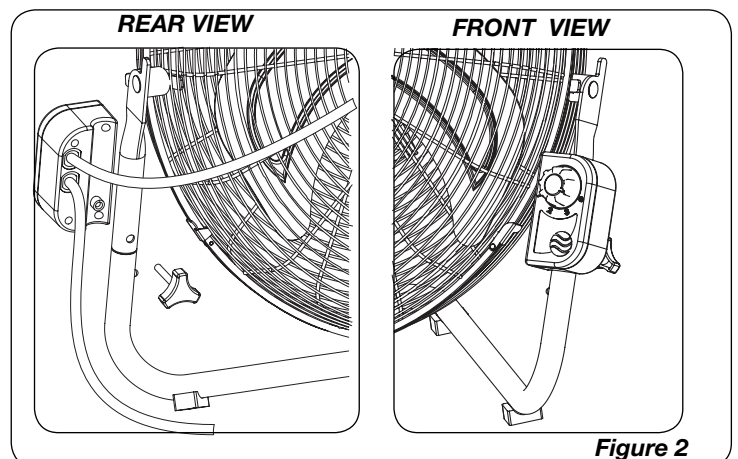

Figure 2
5. Insert the holding screw from the rear of the fan through the hole in the stand leg as shown.(Figure 2)